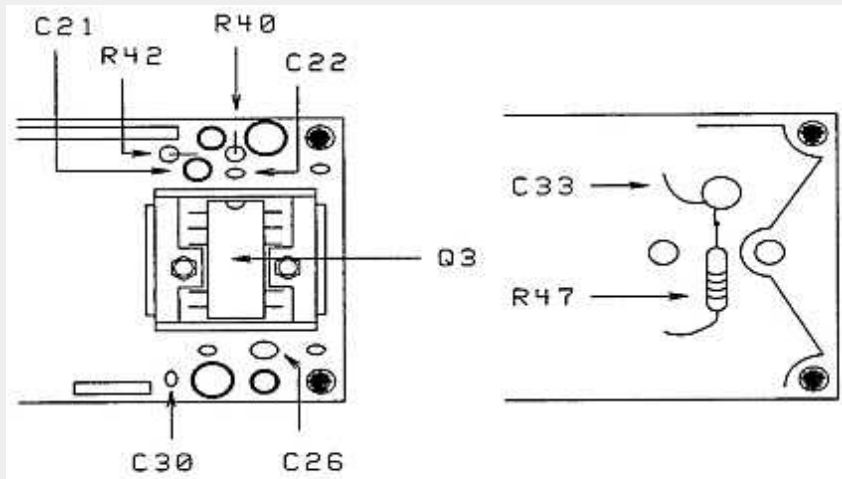

FIGURE 1
4. Remove the two nuts that secure the heat sink to the audio amplifier (Q3) and then remove the heat sink. Figure 1.
5. Desolder and remove Q3, C21, C22, C26, C33, R40, R42, and R47 from the AF AVR board. C33 and R47 are mounted on the foil side of the board, but may not be installed on some models. Figure 1 and 2.
6. Using the parts from the kit, install a 22 uF capacitor in the C21 position, a 0.068 uF capacitor (labeled 683K) in the C22 position, a 3.9 ohm resistor in the R40 position, and a 470 ohm resistor in the R42 position. Figure 1
7. Solder a 0.1 uF capacitor (labeled 104K) in parallel with C30. Mount the part on the foils side of the AF AVR board. Figure 1